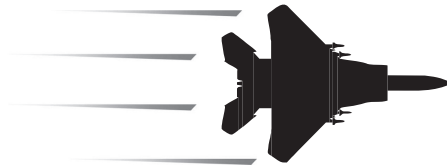

Figure P6.33 Fighter jet under turbulence.
- 6-33.** A wind probe that measures turbulence is mounted to the tip of a fighter jet wing, as shown in Fig. P6.33. The wing vibrates according to the sinusoidal equation $y(t) = 2 \sin(62.83t)$ inches, while the turbulence is measured as $y_M(t) = 4 \cos(62.83t - 60^\circ)$ inches.